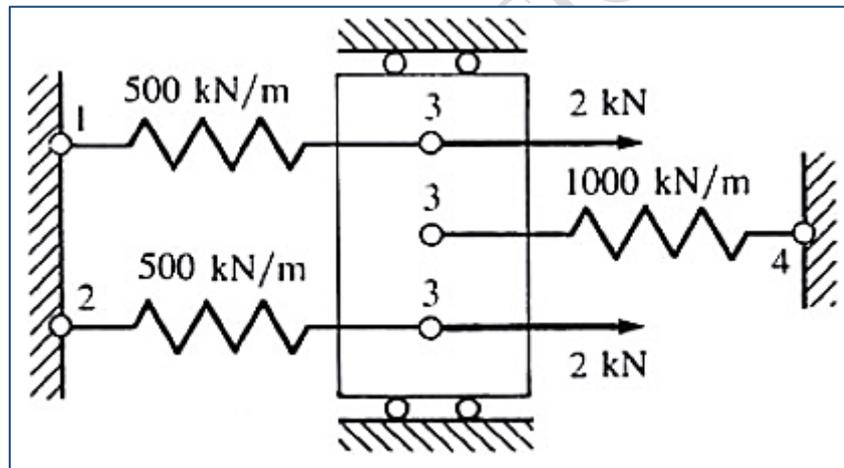

Figure Q2: Spring assemblages
- b) For the spring assemblages shown in **Figure Q2** below, the spring are arranged in series and parallel with node 1, 2 and 4 as fixed and node 3 restricted in moving in x direction only. Use the direct stiffness method for problems.